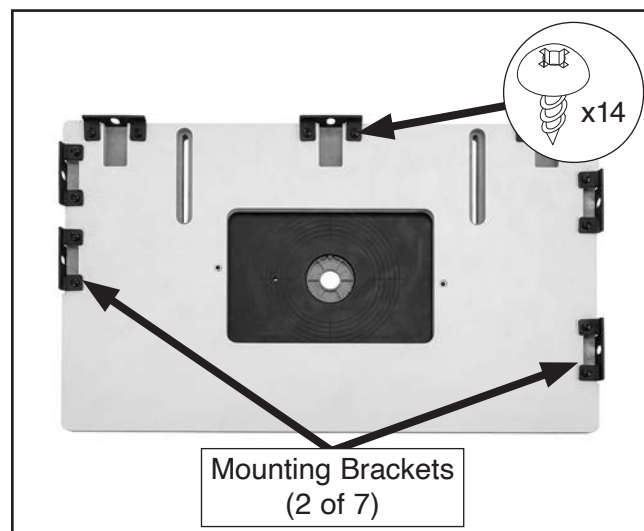

Figure 5. Mounting brackets installed on underside of router table.
1. Install (7) mounting brackets in pockets on underside of router table with (14) M5.5 x 13 tap screws, as shown in Figure 5.